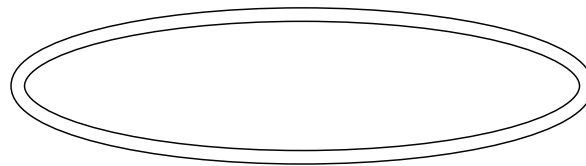
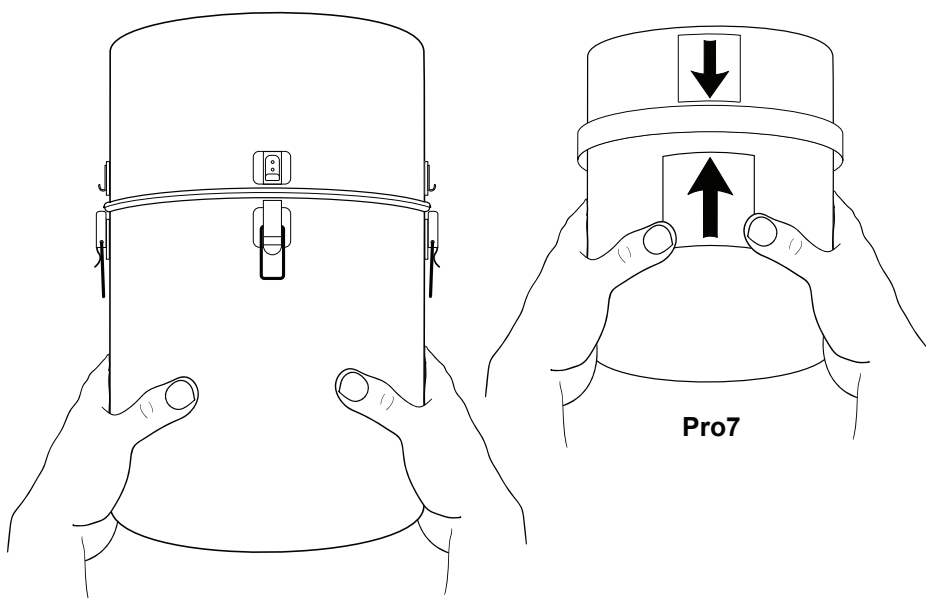
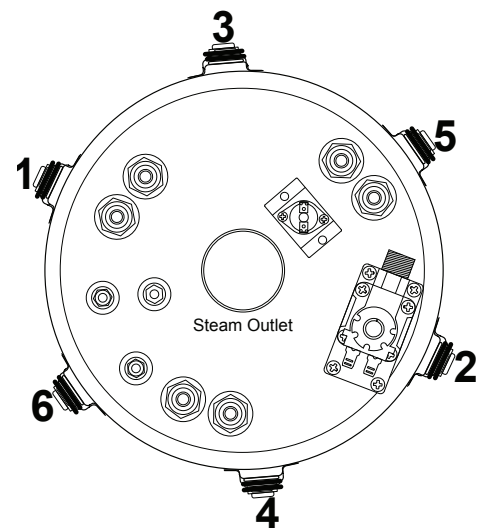

Fig. 16b
Fig. 16c
Fig. 16d
16.8 Once completed, reinstall the o-ring gasket around the bottom tank collar. Please see Fig. 16b. Align the latches around the tank and the fixed part while lifting the tank in place. Please see Fig.16c. Apply even pressure to secure the tank properly in the tank cover. Then close the latches in an alternating sequence similar to Fig. 16d while holding the tank in position. The latches should close with minimal pressure. Verify that the o-ring gasket and tank are seated properly by checking for leaks when re-starting the humidifier.